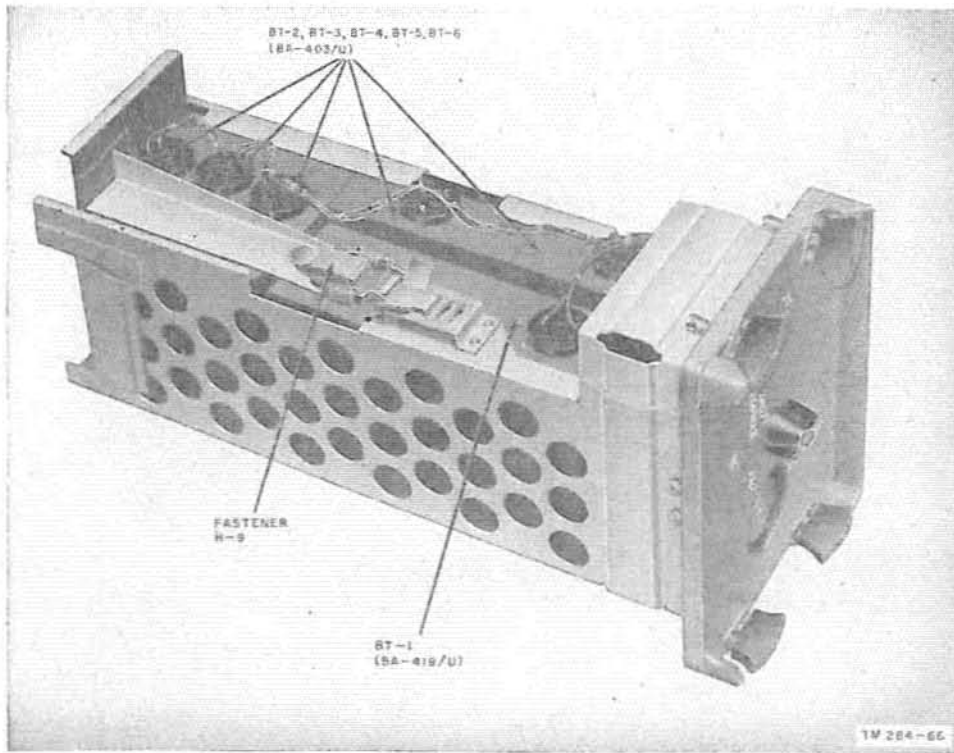

Figure 80. Case CY-590/GRC, case removed, batteries installed.
c. Install five 1.5-volt batteries (type BA-403/U) and one 90-volt battery (type BA-419/U) in the case. Connect the batteries as indicated in figures 80 and 84. Replace the battery tray in the case.